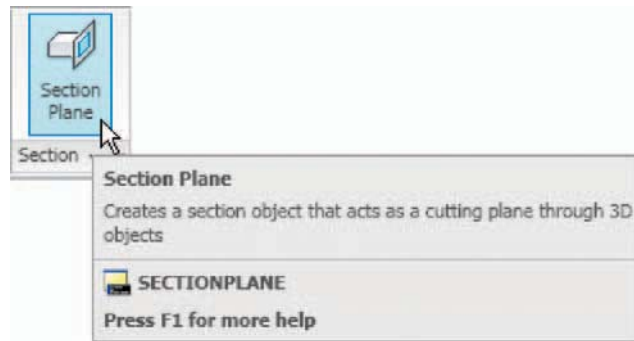

Fig. 14.26 Example – Section Plane tool in the Home/Section panel
5. Click the **Section Plane** tool icon in the **Home/Section** panel (Fig. 14.26).